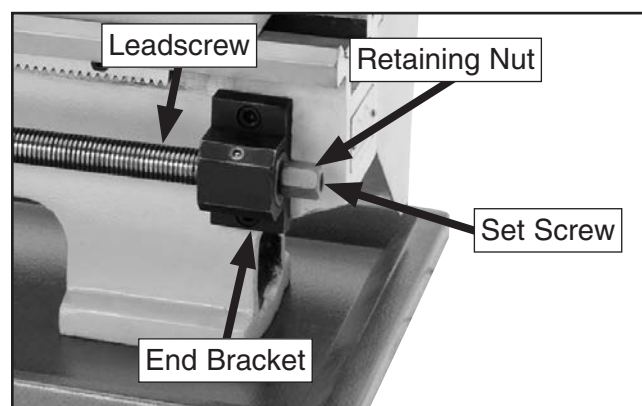

Figure 142. Leadscrew end play adjustments.
2. Loosen set screw shown in **Figure 142** several turns.